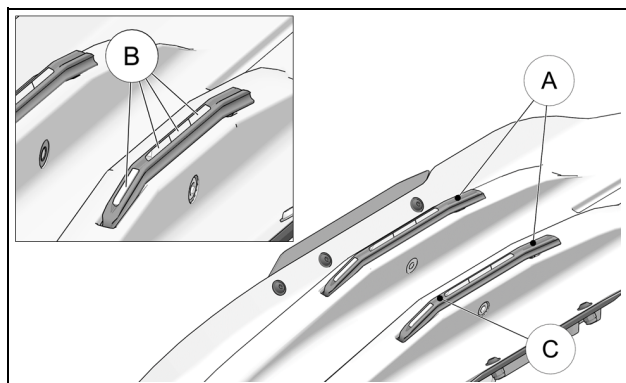

Figure 40
If the ski lacks support through turns on ice, check condition of carbide runners (A). If carbide inserts (B) show abnormal wear, cracks or missing fragments, replace the parts. If the carbide inserts show flat spots wider than 2 mm, or if runner profiles show wear or are gouged between inserts (C), they do not provide the necessary support. Replace them. Figure 40.